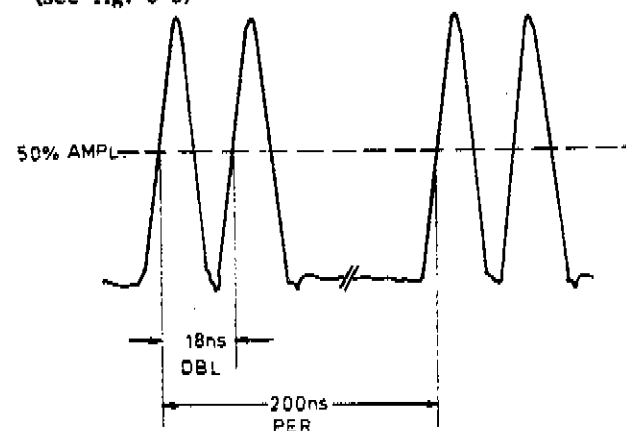

Fig. 5-3. Double Pulse Adjustment.
5. Connect 8112A trigger output to Ext. Trigger Input of sampling scope. Connect 8112A output via 20 dB/50 Ohm termination to sampling scope. Take scope time base error into account. Adjust A2R13 for 18 ns $\pm .3$ ns at 50 % of amplitude (see fig. 5-3)